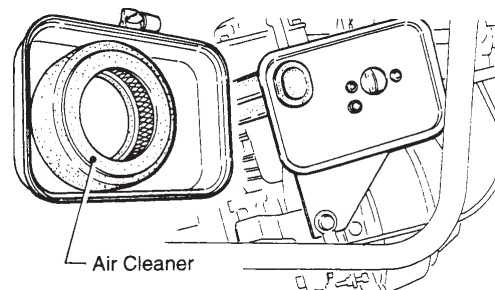

Figure 14. Engine Air Cleaner
- The air cleaner (Figure 14) on the engine side will hardly be contaminated, if it is, however after cleaning the element with kerosene, dip it in mixed oil consisting of 3 parts of gasoline and 1 part of engine oil. Then tightly squeeze outer primary element (sponge) and shake off well the inner secondary element before installing them.